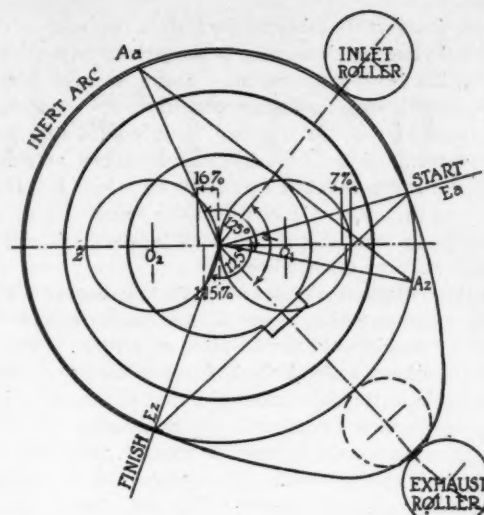

Fig. 5—Diagram for using one cam for inlet and exhaust
is 550 pounds per ton to push the car at a speed of 9 miles per hour, whereas the motor of the car in Fig. 5, Part III, can exert 710 pounds per ton to push the car 5 miles per hour.
From these readings the torque curve of the motor can be plotted as curve (1) of Fig. 5 in Part III.
The motor torque curve once plotted can be used to calculate the torque curves on the resistance-miles diagram for third, second and low gear ratios, as previously shown in Fig. 5, Part III.
Example 2, Fig. 5: The object being to operate inlet and exhaust valves by means of a single cam, the angle of rotation intervening between the actuating of the two valves is to be determined. Under the circumstances the two valves must remain open equally long, so that three points in the valve action determine the fourth. Thus, if it is given that the opening of the inlet valve is 7 per cent. early (Ea=7 per cent.), its closing 11 per cent. late (Ez=11 per cent.) and the opening of the exhaust valve 16 per cent. early (Aa=16 per cent.), then the position Az for the closing of the exhaust, which is usually most variable, is fixed. In the diagram, Fig. 5, it is found practical to introduce the "inert circle" of the cam in the place of the cam circle. The angle between Ea and Ez, with the opening moments as assumed, measures 125 degrees and must be the same between Aa and Az, whereby Az is determined. From the points Ea and Ez and a chosen valve lift the shape of the cam portion can be constructed. The angle  $\phi$  (phi) between the tappet-rod rollers is determined by radial perpendiculars on the chords Aa-Az and Ea-Ez.